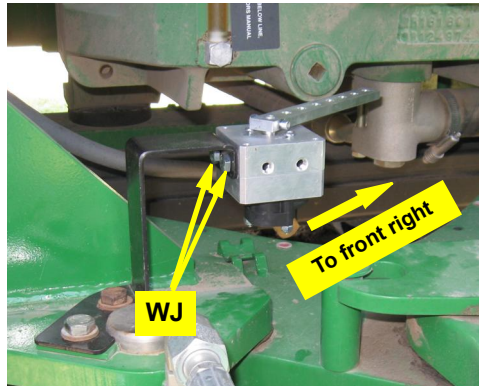

Figure 2c: Installed WAS assembly
- c. Using hardware **WJ**, install the WAS assembly from step 1 to bracket **WN** with the wire connector at the bottom and facing the front right corner of the tractor (Figure 2c).